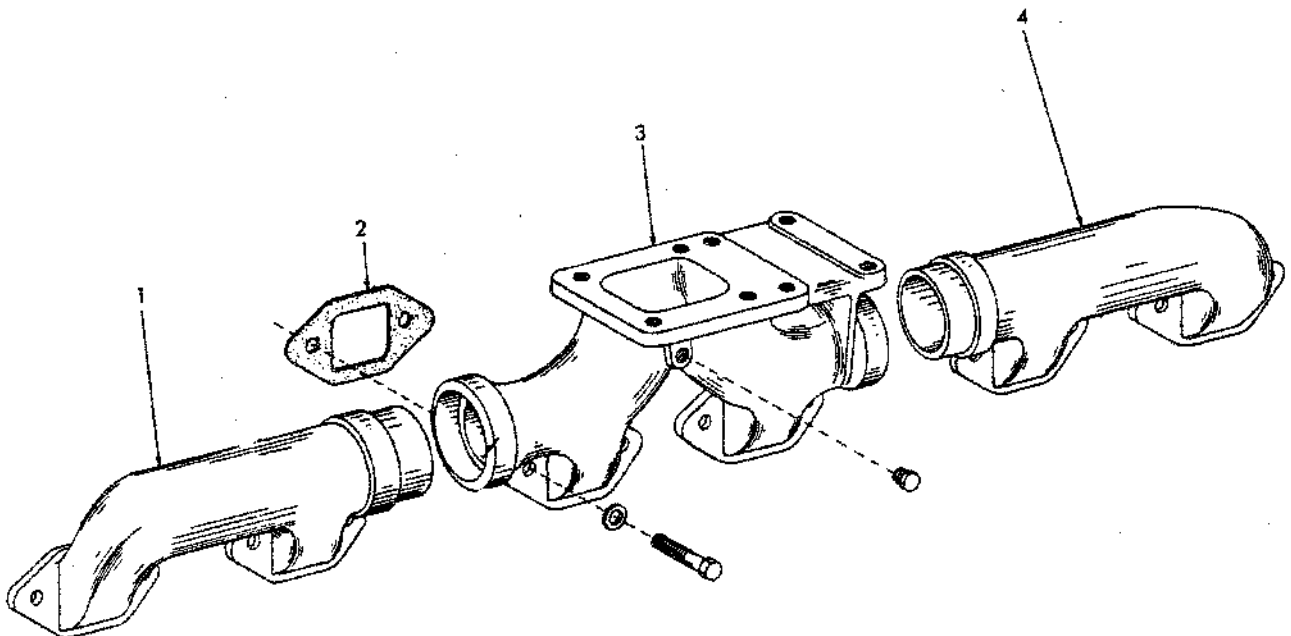

Fig. 1 -- Exhaust Manifold
- d. Install leg adaptors into two opposite tapped holes of pulley and install a puller as illustrated in Fig. 1.